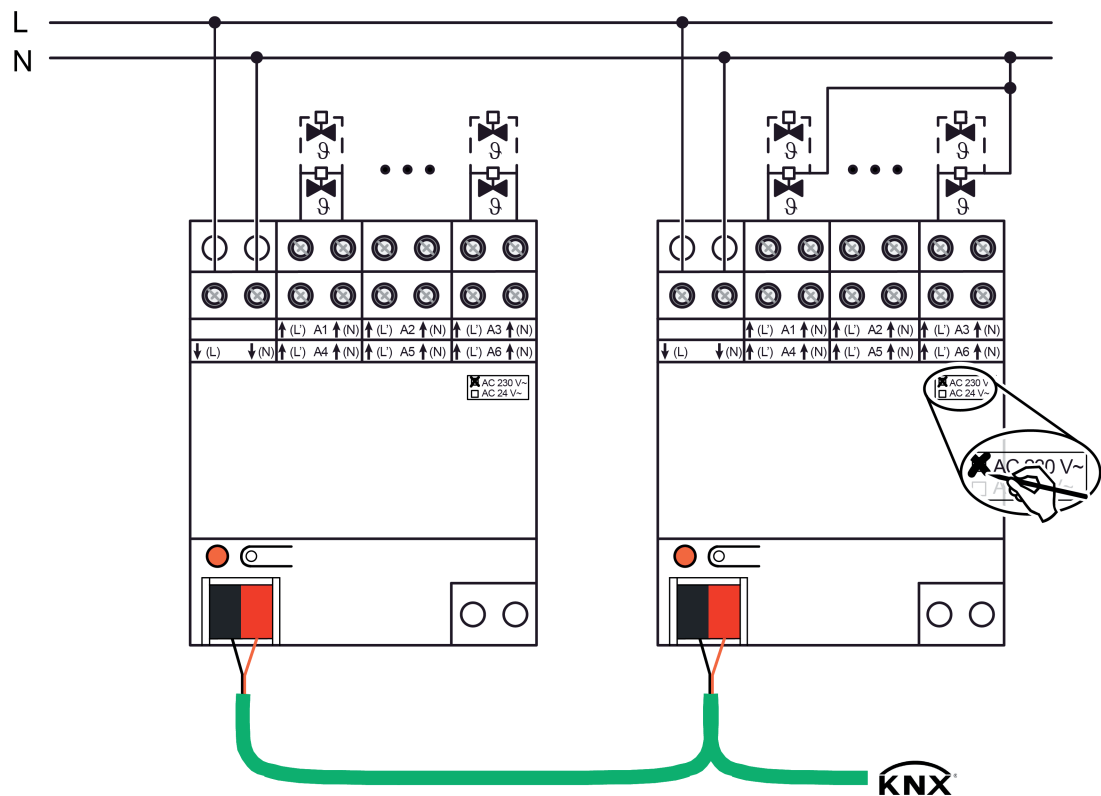

Figure 2: Connection for AC 230 V actuators (connection examples)
- Connect the AC 230 V valve drives according to the connection diagram (Figure 2). The neutral conductors of the actuators can either be connected directly to the N terminals of the outputs of the heating actuator (left-hand connection example) or, alternatively, jointly with a suitable N potential (e.g. N conductor terminal in the distributor) (right-hand connection example). It is not absolutely necessary to connect the neutral conductor of the actuators directly to the actuator.
- Connect the supply (mains voltage AC 230 V) for the actuators to the terminals ↓(L) and ↓(N) (1).